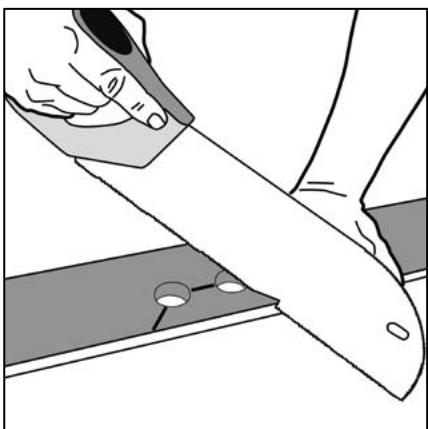

Figure 20 Radiator pipes
- Cut around as shown with a saw or with a sharp utility knife (Fig 20 overleaf).